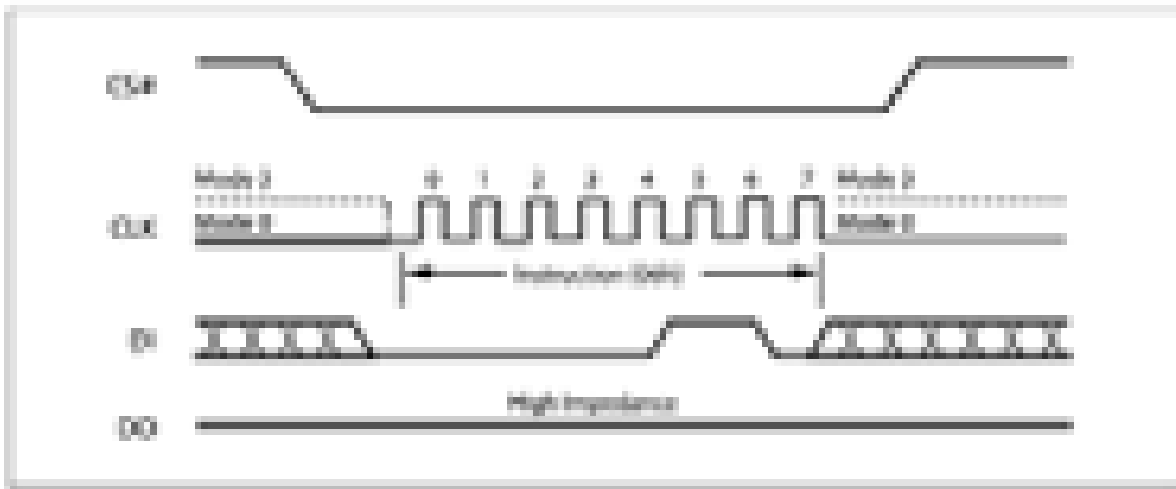

Figure 5. Write Enable Instruction Sequence Diagram
The Write Enable (WREN) instruction (Figure 5) sets the Write Enable Latch (WEL) bit. The Write Enable Latch (WEL) bit must be set prior to every Page Program (PP), Sector Erase (SE), Block Erase (BE), Chip Erase (CE) and Write Status Register (WRSR) instruction. The Write Enable (WREN) instruction is entered by driving Chip Select (CS#) Low, sending the instruction code, and then driving Chip Select (CS#) High.